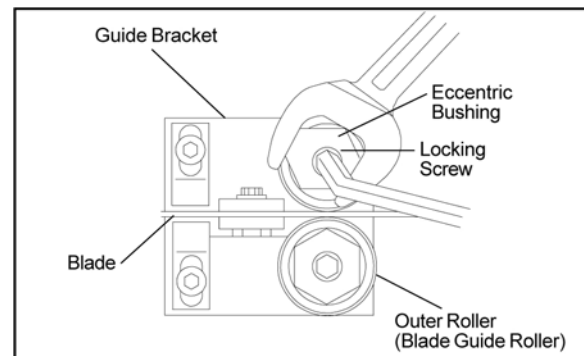

Figure 12: Adjustment of guide bearings
3. Hold the bushing with a 3/4-inch wrench and loosen the center locking screw with an Allen wrench (see Figure 12).